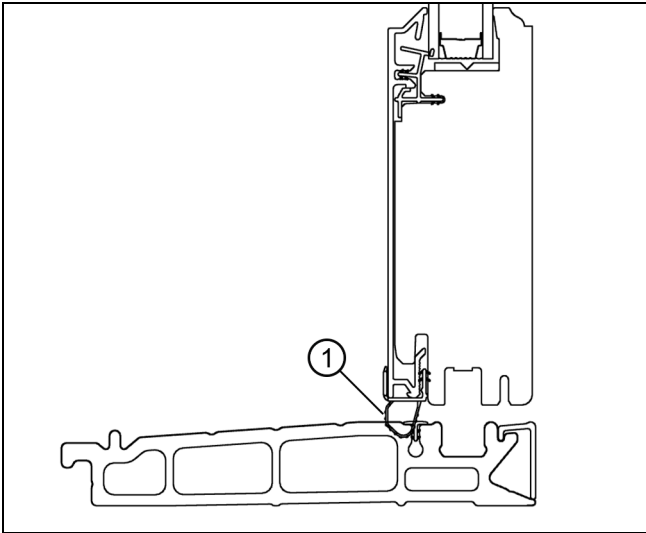

Figure 16
1. On active and inactive operator panels as well as interior stationary panels, insert the barbed side of the sill weatherstrip into the bottom of the panel. Rotate the other side to the clad side of the panel and then remove the adhesive backing. Press the weather strip onto the cladding. See Figure 16.